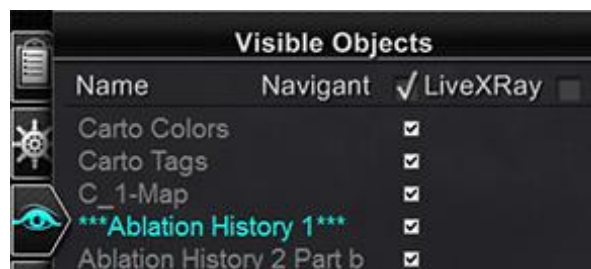

Figure 139. Result when “Ablation History 1” is activated
- To activate an Ablation History after working with another history, right-click its name. A 3-item menu appears where the user can select **Activate**, with the result shown below (**Figure 139**).